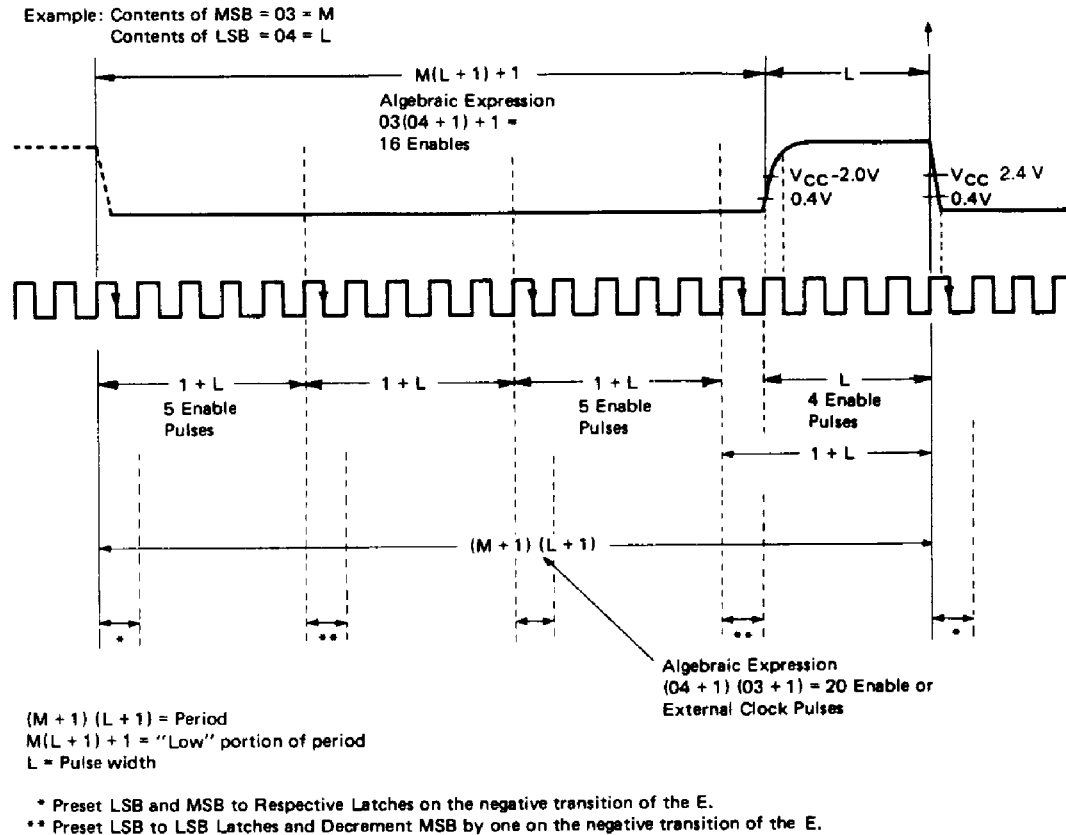

Figure 9 Timer Output Waveform Example
In the dual 8-bit mode (CRX2 = "1") [Refer to the example in Fig. 9] the MSB decrements once for every full countdown of the LSB + 1. When the LSB = "0", the MSB is unchanged; on the next clock pulse the LSB is reset to the count in the LSB Latches and the MSB is decremented by 1 (one). The output, if enabled, remains "Low" during and after initialization and will remain "Low" until the counter MSB is all "0"s. The output will go "High" at the beginning of the next clock pulse. The output remains "High" until both the LSB and MSB of the counter are all "0"s. At the beginning of the next clock pulse the defined Time Out (TO) will occur and the output will go "Low". In the Dual 8-bit mode the period of the output of the example in Fig. 9 would span 20 clock pulses as opposed to the 1546 clock pulses using the Normal 16-bit mode.